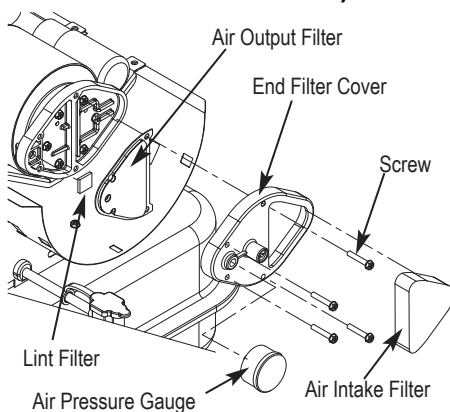

Figure 11 - Filter Assembly
- Remove end filter cover screws using medium Phillips Screwdriver (See Air Output Filter, Lint Filter Figure 11).